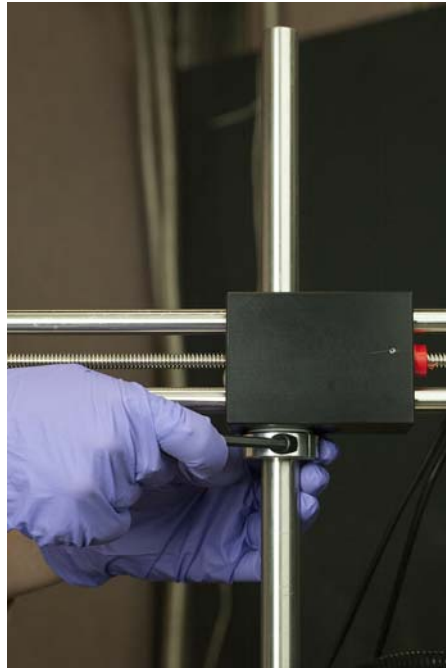

FIGURE 6-6 *Microscope focus adjustments*
3. While supporting the microscope with one hand to prevent it from falling, use the $\frac{3}{16}$ in hex driver to loosen the shaft collar (section FIGURE 6-6).